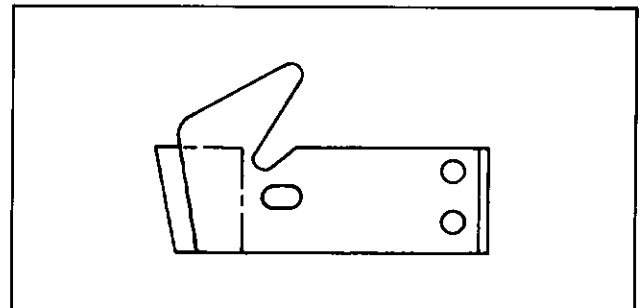

**Fig. 56 Tilt Arc Chute**
**TILT ARC CHUTE (FIG. 56)**
#### **TILT ARC CHUTE (FIG. 56)**
Lift arc chute up and position end of prop in hole in casting at base of chute support post. See Fig. 56.